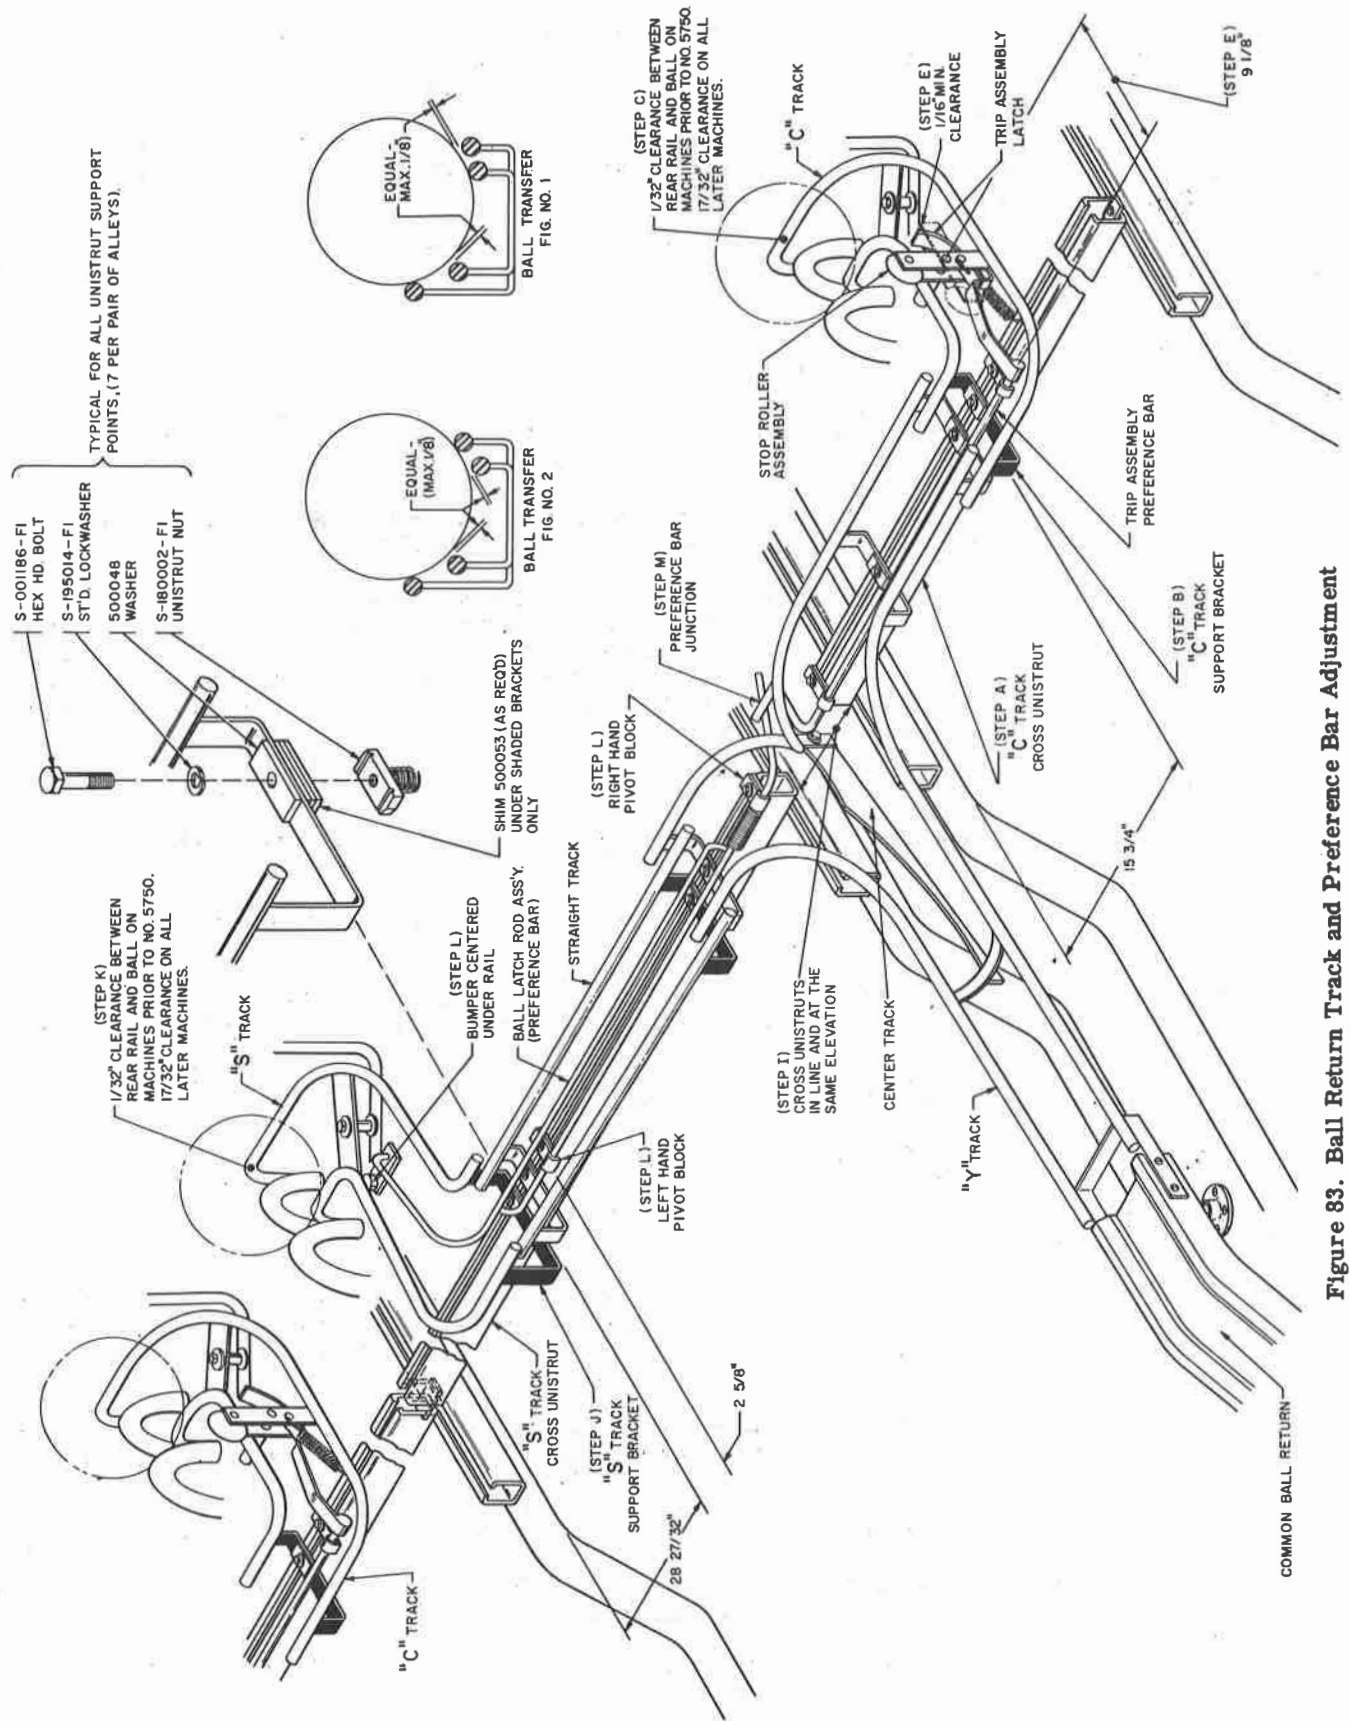

Figure 83. Ball Return Track and Preference Bar Adjustment
28. BALL RETURN TRACK AND PREFERENCE BAR ADJUSTMENT-CENTER RETURNS. (FIGURE 83)